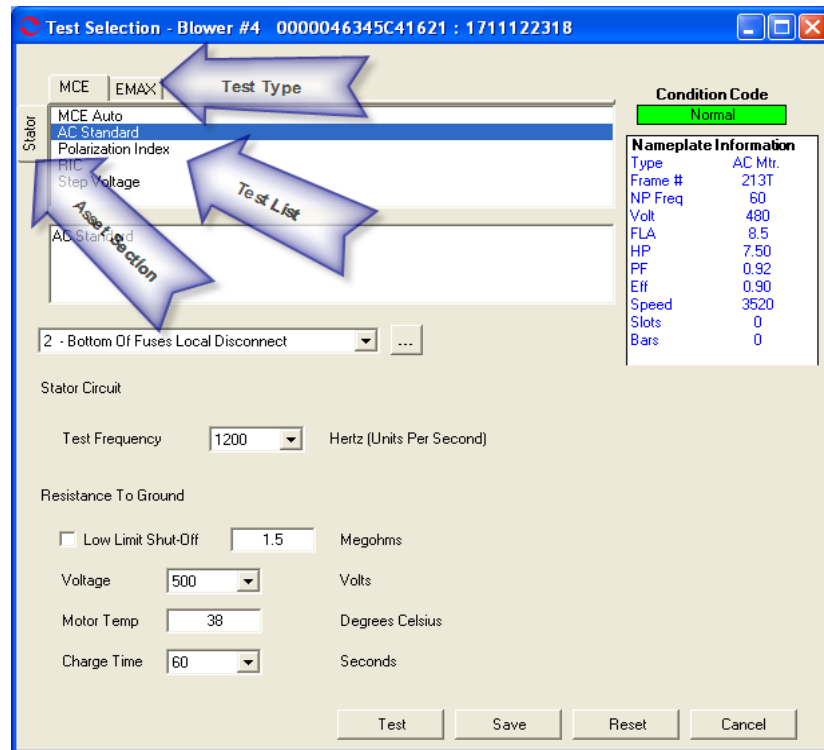

Figure 5-12: Test Selection Window
- Select the Test Selection icon  on the toolbar. The Test Selection window opens, Figure 5-12.